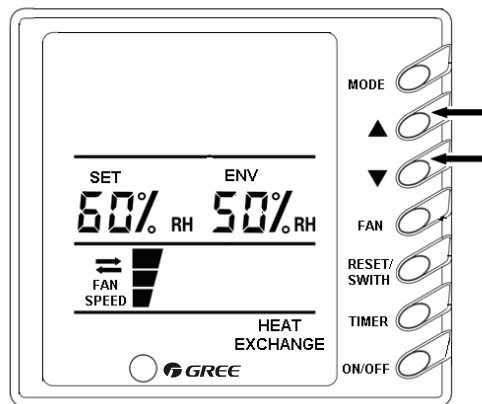

Fig.5
3) Humidity Adjustment (Fig.5)